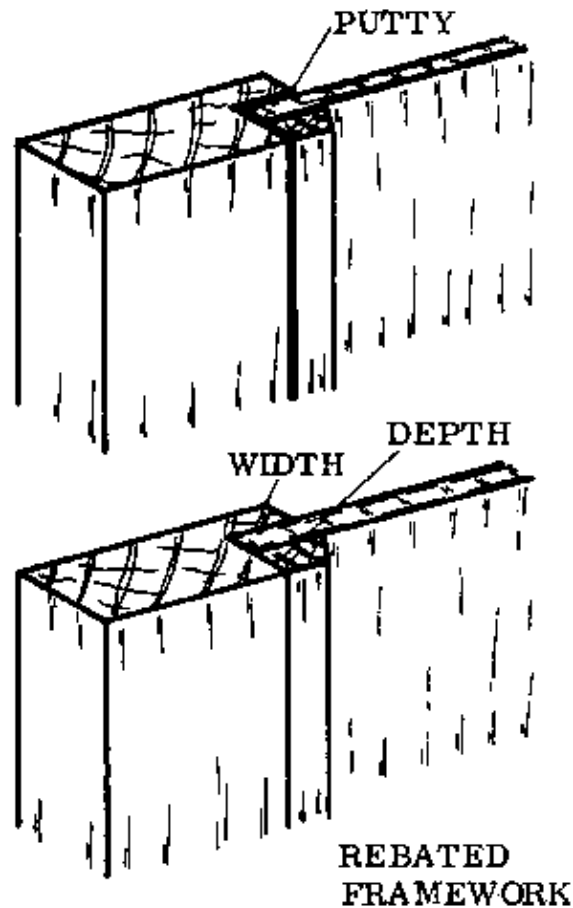

Fig. 3
– **REBATED FRAMEWORK:** When the panel will be fixed after the frame is assembled, a rebated framework is used. A rebate is made in the frame and the panel is secured with beads (Fig. 3).
The width of the rebate is usually $\frac{1}{3}$ rd of the thickness of the frame member, and the depth is usually $\frac{2}{3}$ rds of the thickness of the member (Fig. 3).